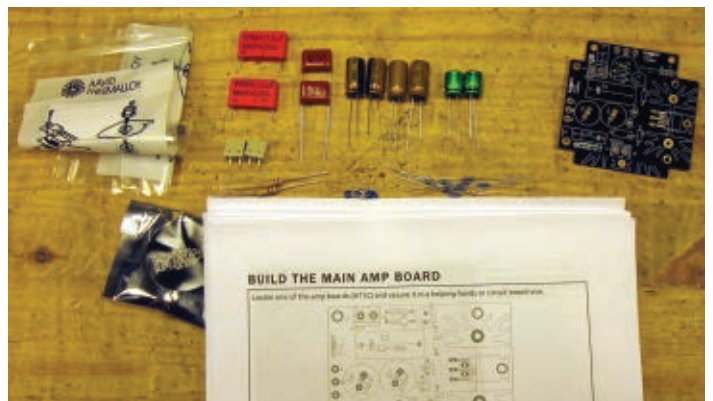

Figure 4. Amplifier components.
Looking at the microcontroller board in **Figure 4**, you will notice pins for ICSP, Rx, and Tx for future use or for modifying the program; these pins are optional. I used a socket for the microcontroller with the decoupling capacitor, C1, mounted between the two rows of the socket beneath the socketed microcontroller. This allows the capacitor to be very close to the Vcc and ground leads while taking up less space. The only other connection is a male two-pin header for power, fed from a five volt wall wart supply.
■ **FIGURE 4. Microcontroller circuitry built on a perf board.**